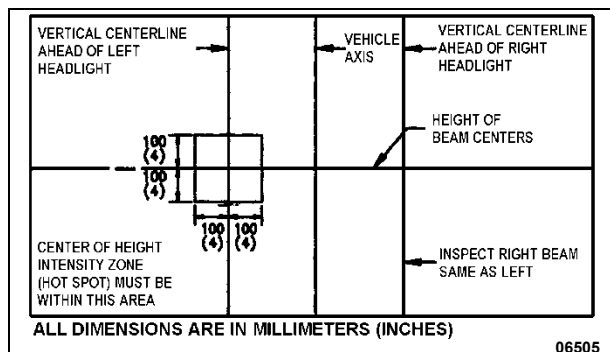

FIGURE 56: AIM INSPECTION LIMITS FOR UPPER-BEAM HEADLIGHTS
6. The inspection limits for high-beam headlights shall be with the center of the high-intensity zone from 10 cm (4 in) up to 10 cm (4 in) down; and, from 10 cm (4 in) left to 10 cm (4 in) right on a screen at 7.6 m (25 ft) (Figure 56).